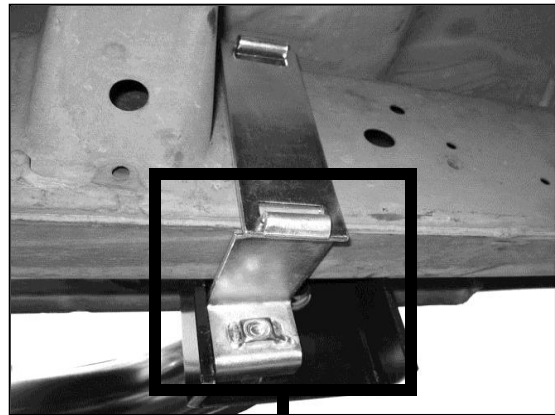

**Figure 4**
5. To secure the Bolt Plate in place, put a Plastic Retainer on Bolt and thread tight against the frame (**Figure 4**).